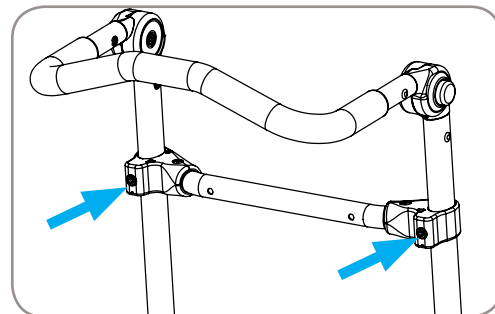

Figure 20
1. Loosen bolts (2) at locations shown in Figure 20.